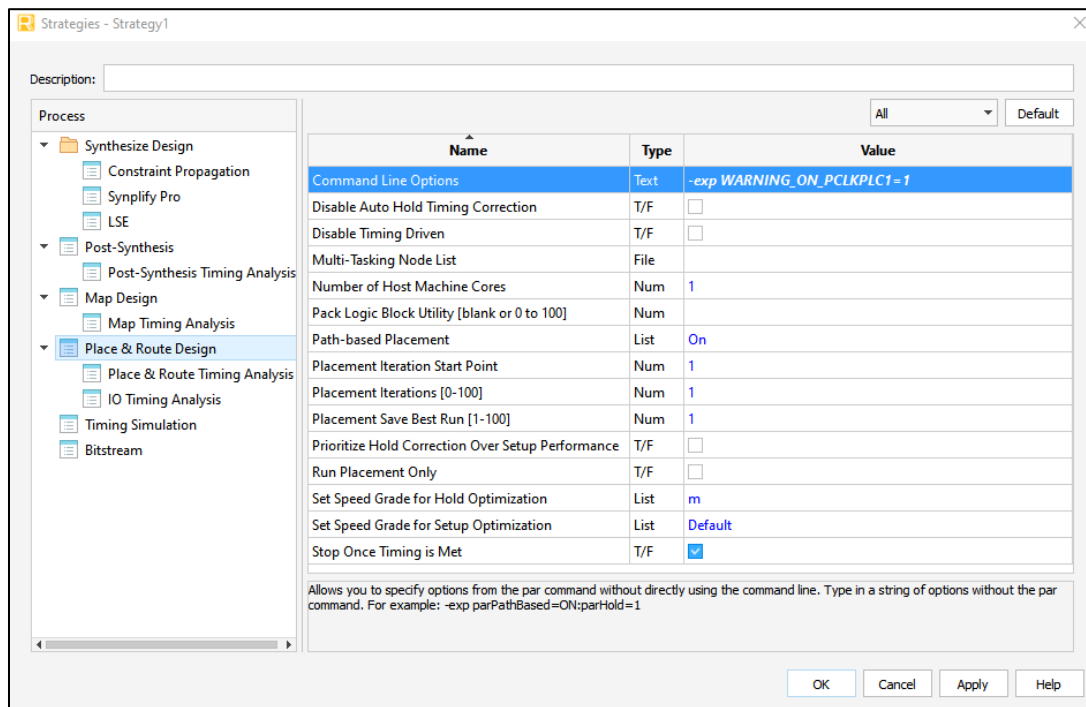

Figure B.3. Setting Environment Variables
- d. In the **Strategies** dialog box, set the environment variable for **Place & Route Design**. Enter “-exp WARNING_ON_PCLKPLC1=1” to the Value of **Command Line Options** if TCK connects to normal I/O (Figure B.3).